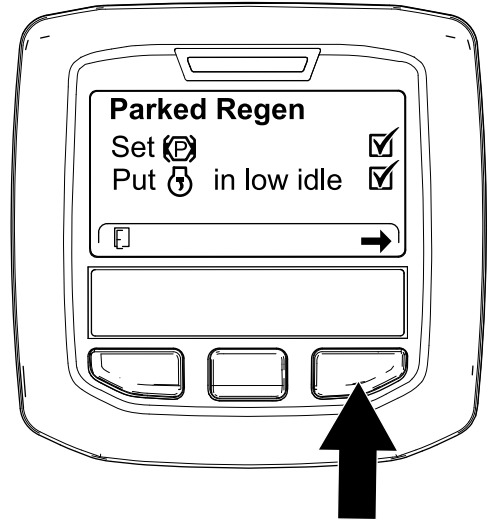

Figure 63
- At the DPF checklist screen, verify that the parking brake is engaged and that the engine speed is set to low idle (Figure 63).